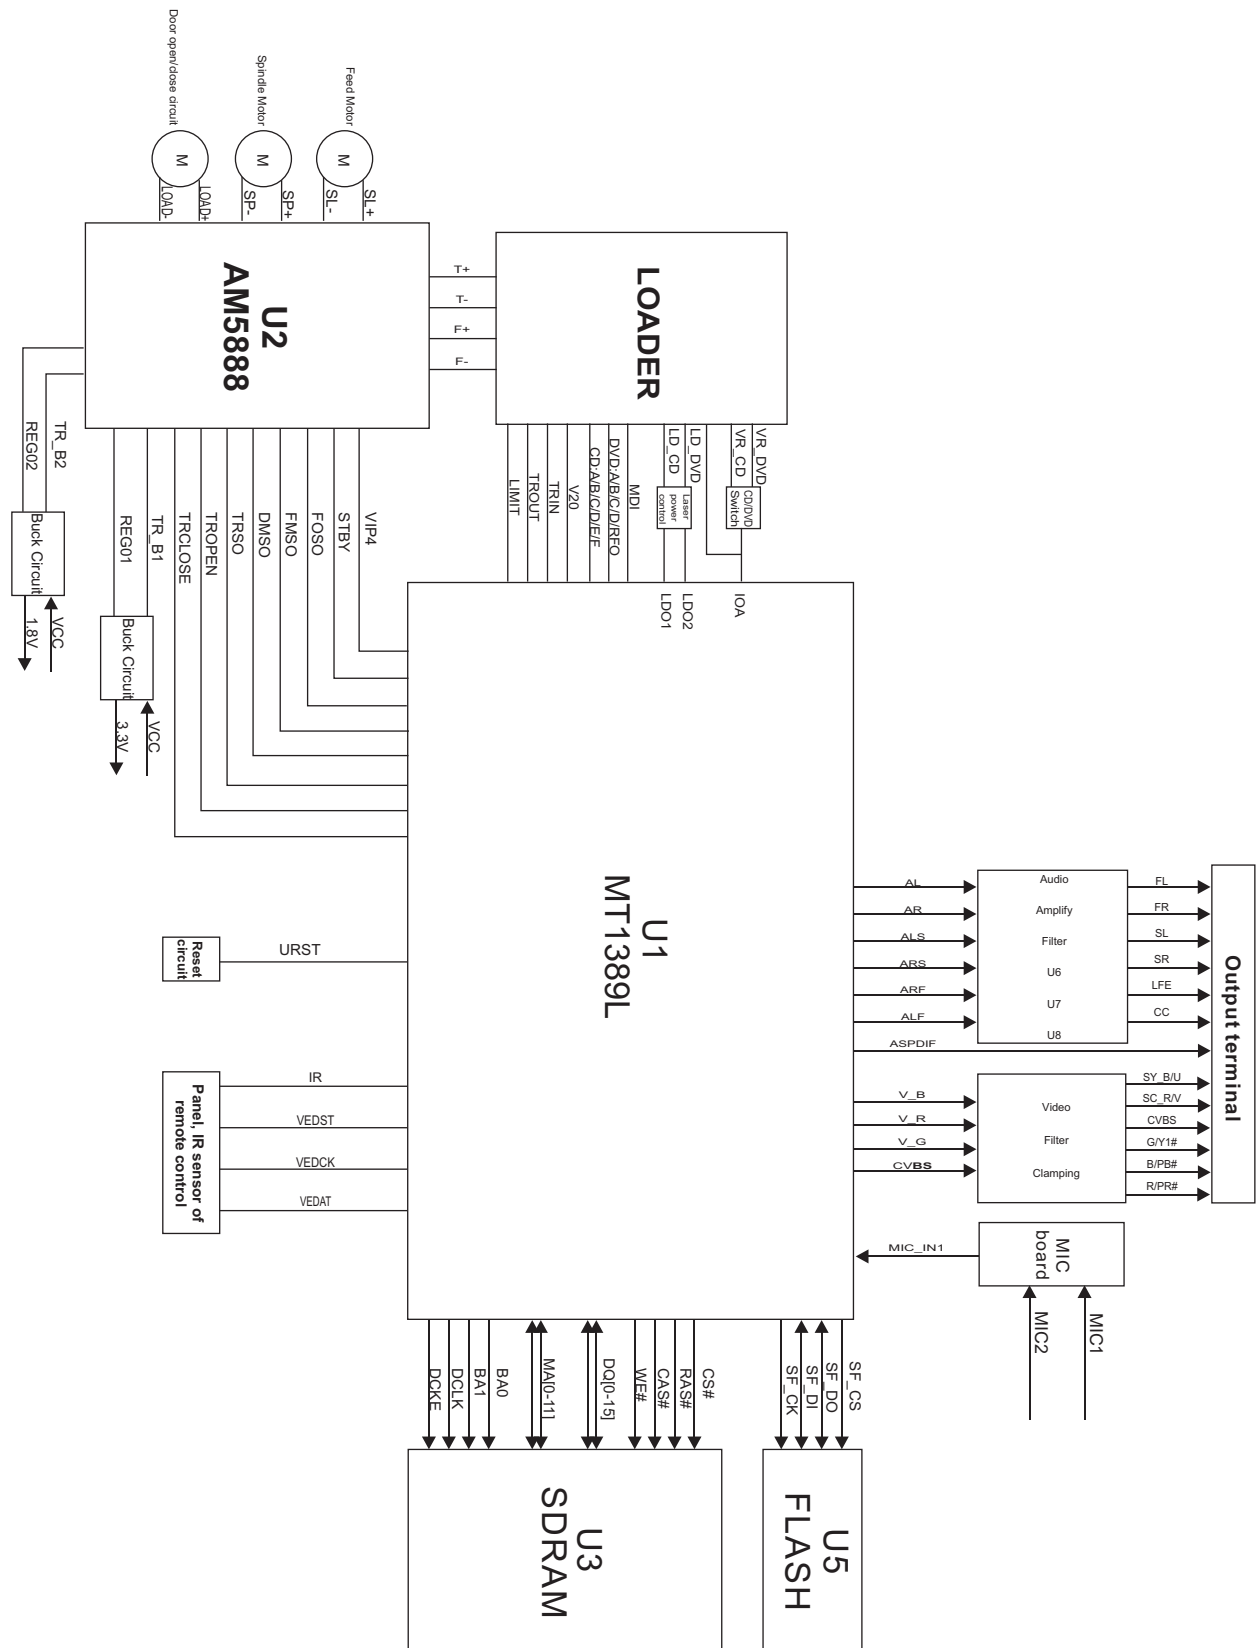

Figure 3.2.1 Block diagram of DV811X(RU)
Block diagram for DV811X(RU) player is shown in figure 3.2.1.